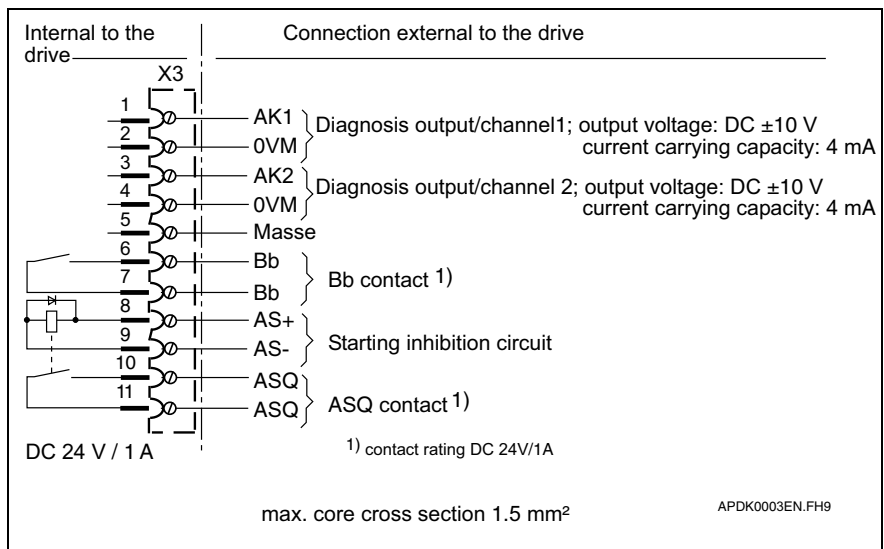

Fig.: 5-6 Terminal assignment at X3
- Do not overlap the contact (loadability: refer to Fig.: 5-6).